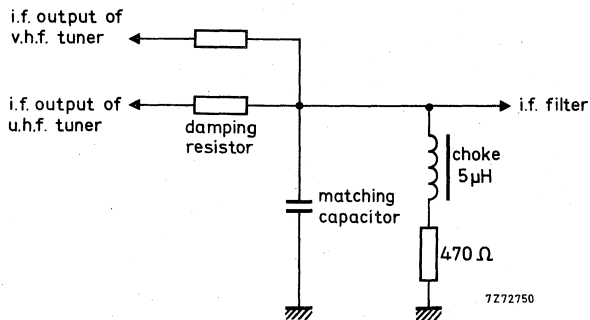

Fig. 9.
The tuner needs a d.c. path from the i.f. output terminal (10) to earth, preferably via a choke of approx. $5 \mu\text{H}$ outside the tuner (Fig. 9). Where the tuner is used in combination with a v.h.f. tuner, this choke can be common for both tuners; a resistor in series with the choke can inhibit the i.f. output circuit of the switched-off tuner. For damping the i.f. output circuit and matching the i.f. output impedance of the tuner to the receiver i.f. amplifier, a series resistor and a parallel capacitor as shown in Fig. 9 should be used.